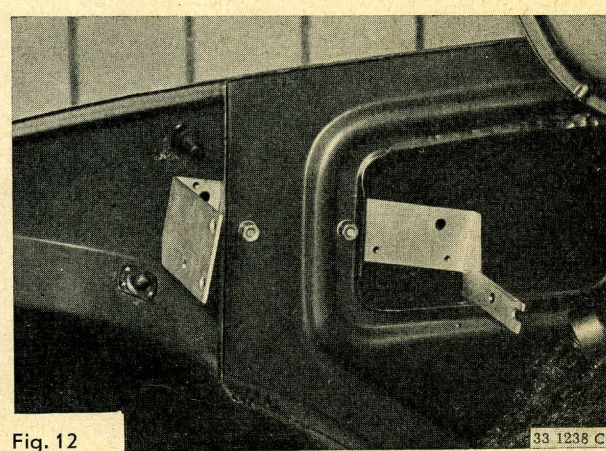

Fig. 12
- b) Fit stay (16) as shown in Fig. 12.
- c) Place power unit (2) and splash protector (22) on stay and secure.